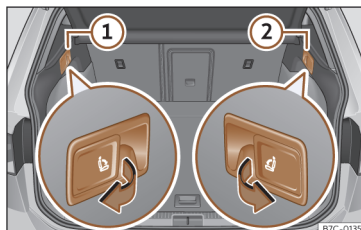

Fig. 104 In the luggage compartment: levers for remote release of the left part (1) and right part (2) of the rear seat backrest.
- Pull the unlocking lever >>> Fig. 104 of the part of the backrest to fold down.